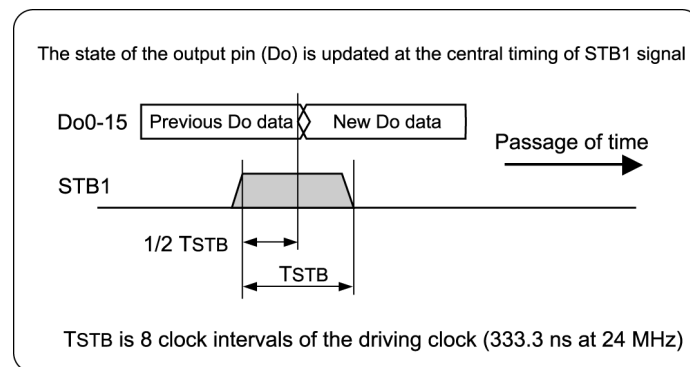

Fig. 4.2 Update Timing of Output Pin (Do)
Each time the MKY34 inputs the command packet (CP) matching the SA from the center IC correctly, it outputs data in the CP to the output pin (Do) of the MKY34. The state of the output pin (Do) is updated at the central timing of the pulse-like strobe signal from the STB1 (STroBe-1) pin (pin 48) (Fig. 4.2). The function of this STB1 pin can be used to notify a circuit connected to the output pin (Do) that the output state is updated.